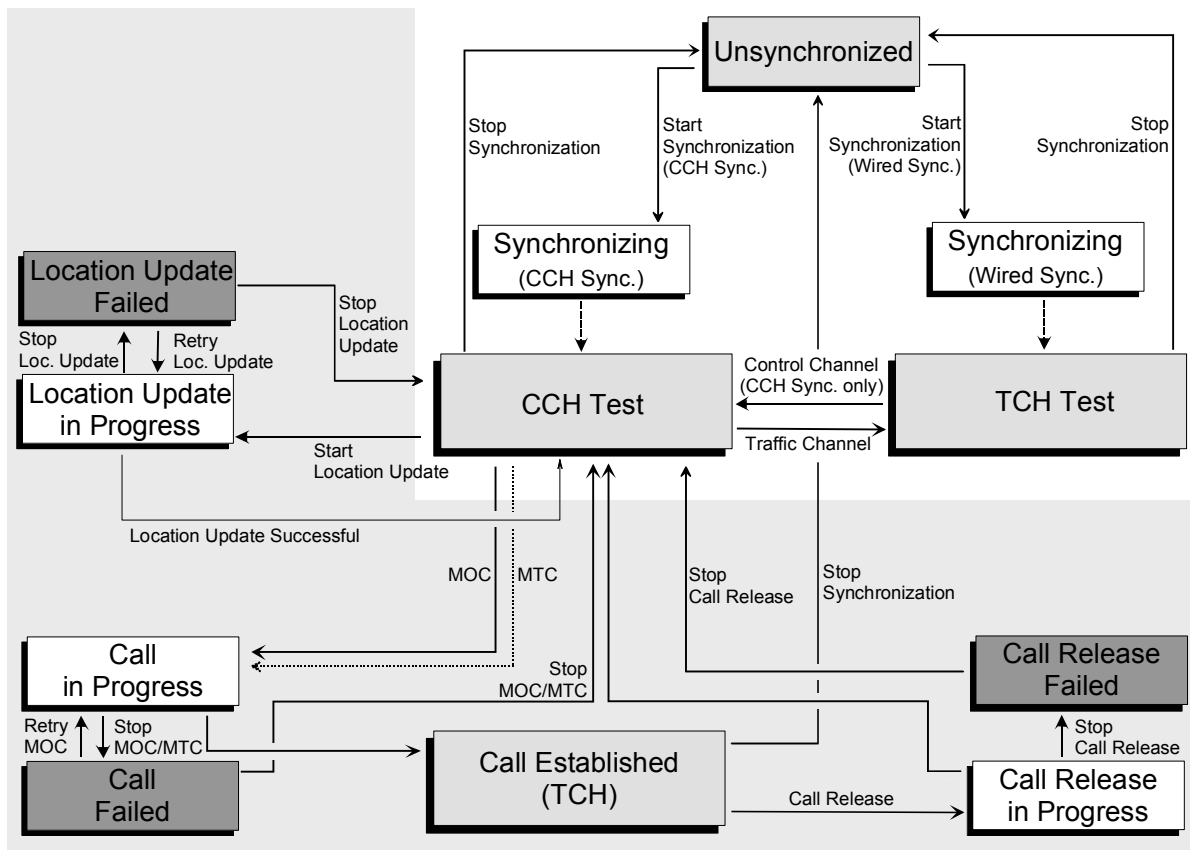

Fig. 4-37 Signalling states of the CMU
A number of control commands which can be initiated both by the CMU (*Mobile Originated Call, MOC*) and by the base station (*Mobile Terminated Call, MTC*) switch over between these states (see Fig. 4-37; processes initiated by the base station or automatic processes are indicated by dashed lines).
**Note:** The Call Established (TCH) state and all other states in the shaded area in Fig. 4-37 are available with option CMU-K39, MOC/MTC only.
Each of the signalling states in Fig. 4-37 is assigned a different *Connection* tab in the *Connection Control* menu. When the *CCH Test* signalling state is reached, the corresponding menu is opened automatically (exception: see softkey *Open Pop. autom.*).